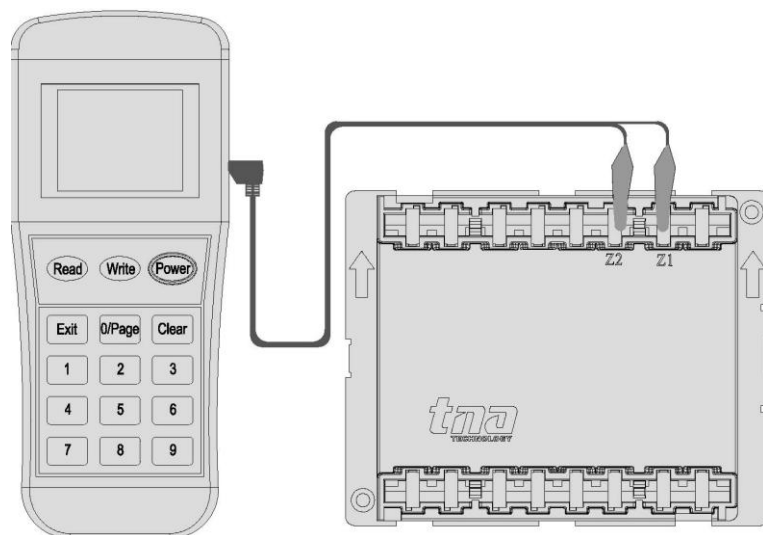

Figure 6: Programmer Connection Detail
1. Connect the programming cable to Z1 and Z2 terminals (Figure 6). Press **“Power”** to switch on the unit.
2. Connect the programming cable to Z1 and Z2 terminals (Figure 6). Press **"Power"** to switch-on the unit.
2. To set to check mode. Connect the programming cable to Z1 and Z2 terminals (Figure 6). Press **“Power”** to switch-on the unit.
2. Connect the programming cable to Z1 and Z2 terminals (Figure 6). Press **“Power”** to switch-on the unit.
1. Connect the programming cable to Z1 and Z2 terminals (Figure 6). Press **“Power”** to switch-on the unit.